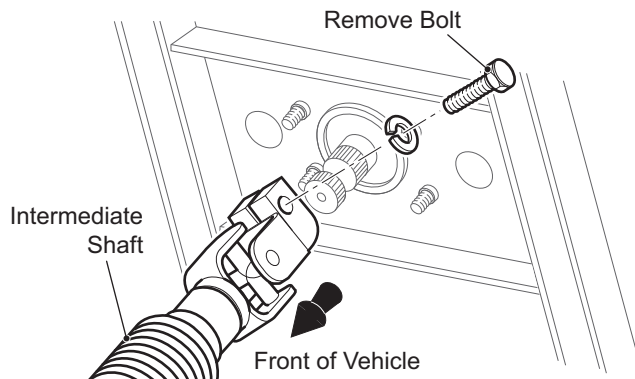

Figure 5 Disconnect Intermediate Shaft to Center Steering Wheel
5. Test drive the vehicle and confirm the steering wheel is correctly centered. If it is not centered, disconnect the intermediate shaft from the steering shaft and center the steering wheel (Ref. Figure 5).